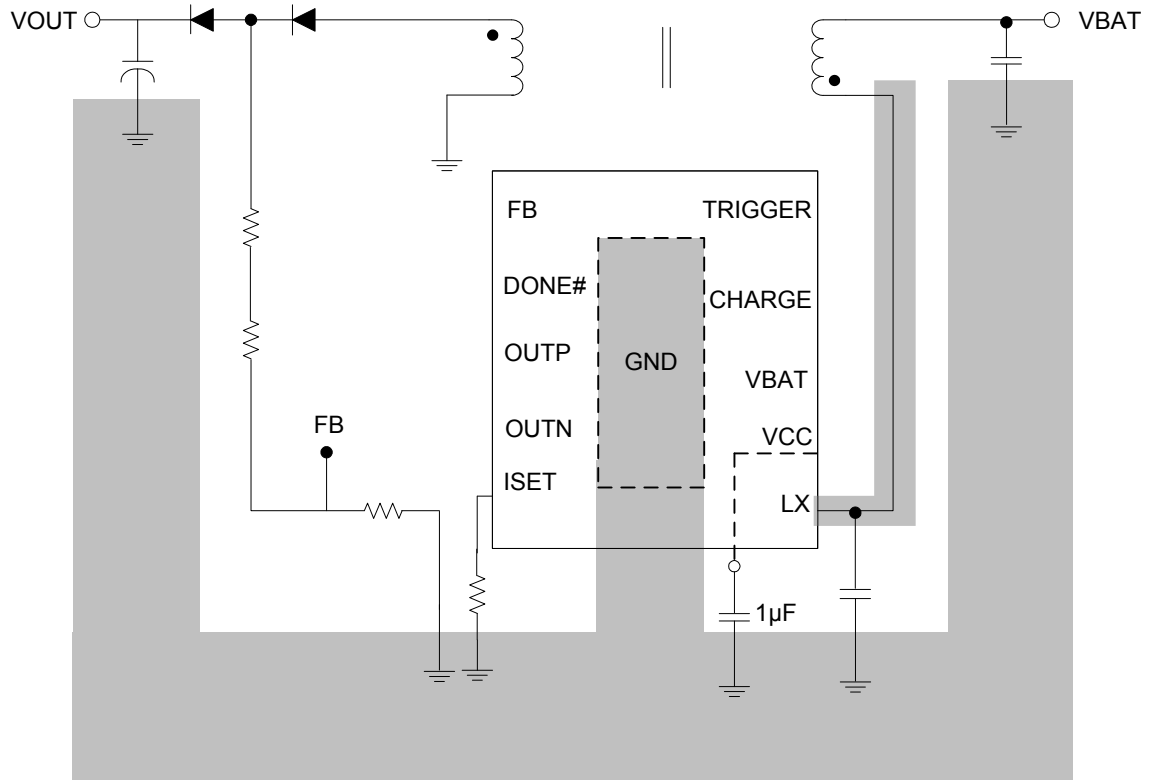

Fig. 21 Recommended PCB layout
3. Refer to Fig.21, there should be no GND plane or GND path close to nodes of R1, R2 and R3.
7. Please refer to Fig.21 and the EV kit for the PCB layout example.